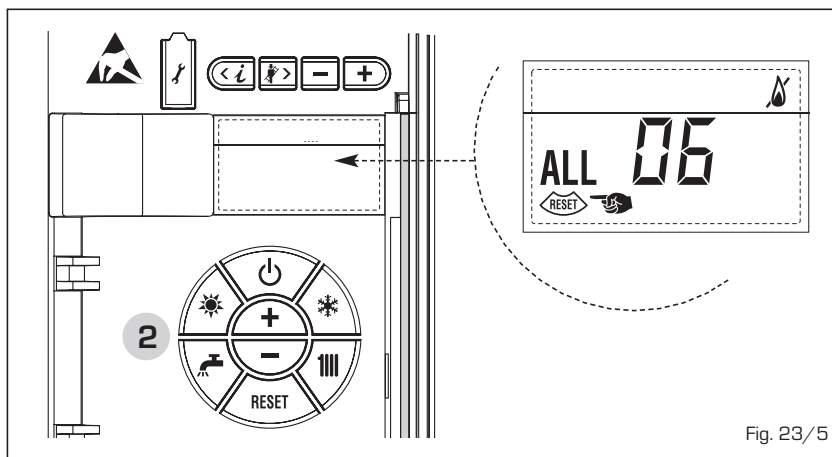

Fig. 23/5
– **ANOMALIA TERMOSTATO SICUREZZA/LIMITE “ALL 07” (fig. 23/6)**